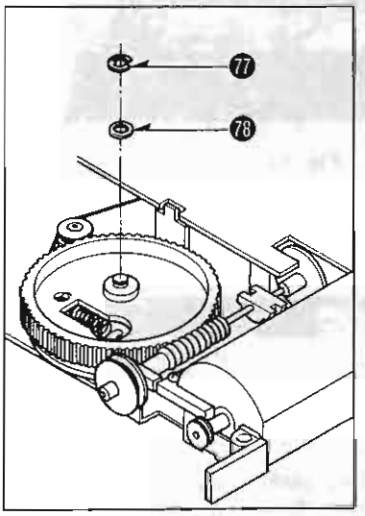

Fig. 20
2. Remove E-ring 77 and washer 78 of the tonearm drive wheel. (See Fig. 20)